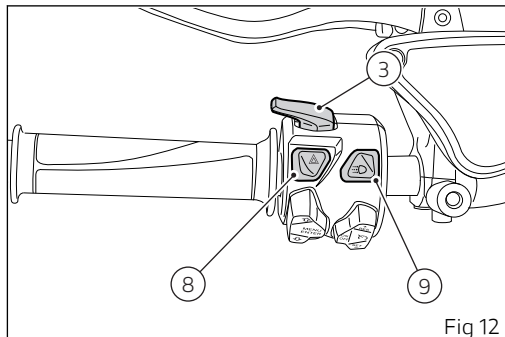

Fig 12
3) LIGHT ON/OFF AND SWITCHING BUTTON (LOW BEAMS / HIGH BEAMS) (Fig 12)